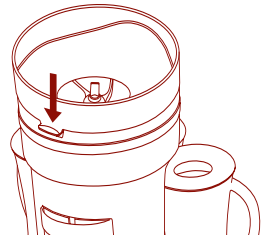

Figure 2
2. To remove the Ice Reservoir, push down on the **Ice Reservoir Release Button** (Figure 2). Lift the back of the Ice Reservoir and remove. This will expose the Hopper Cover, Shaving Paddle and Ice Hopper.